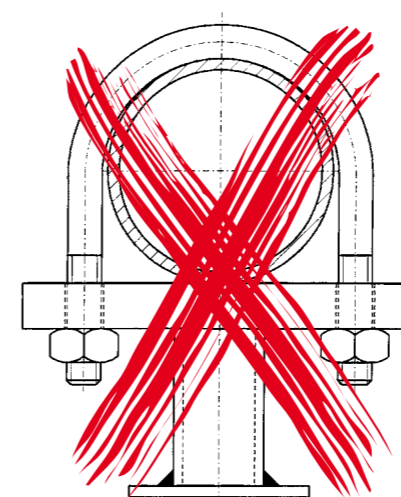
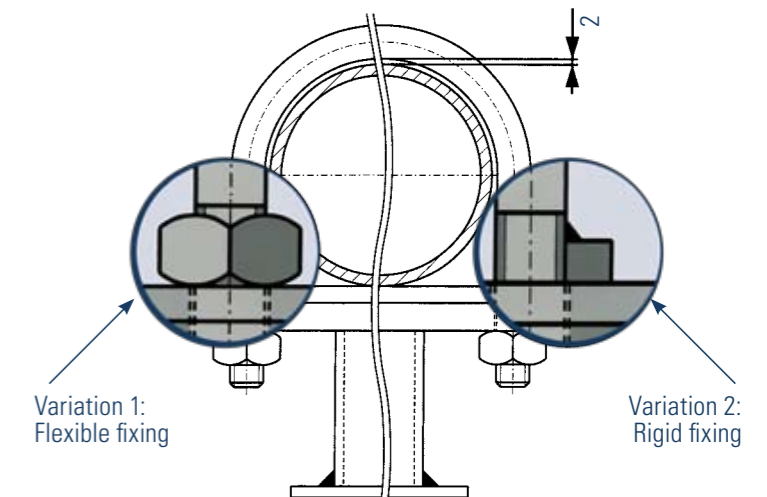

Fig. 5 U-type support
Fig. 6 U-type guiding support
- U-type supports (Fig. 5) must not be used on glass lined pipelines because, when tightened, these damage the glass lining (Exception: U-type guiding supports, cf. Figure 6).